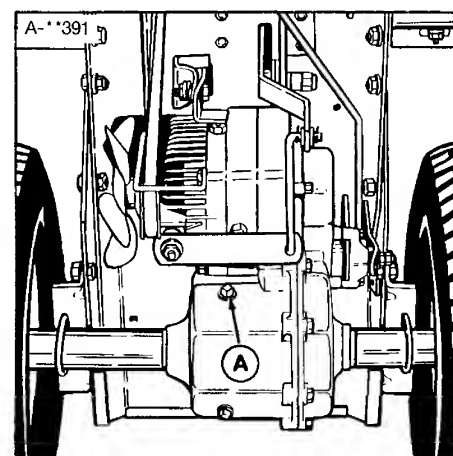

Figure 21. Differential Check Plug
2. Remove the check plug (figure 21) by turning counterclockwise. Oil level should be at bottom of hole. If not, add *Simplicity* Multipurpose Hydraulic/Transmission Oil or Allis-Chalmers Power Fluid 821.